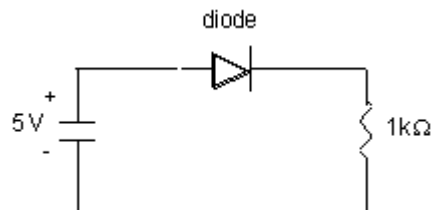

Figure 4. Series resistor-diode circuit.
8. Find a low-current diode (1N914 or equivalent; **not** a light-emitting diode) in your component box. Examine it and determine how it is marked to distinguish the two ends. Use the diode to assemble the circuit shown in Figure 4. Measure the current in the loop and the voltage across the diode and the resistor, then reverse the way the diode is connected into circuit (that is, reverse which lead of the diode is connected to the power supply and which lead to the resistor) and repeat the measurements. Which way do you think would be called forward biased and which would be reverse biased?